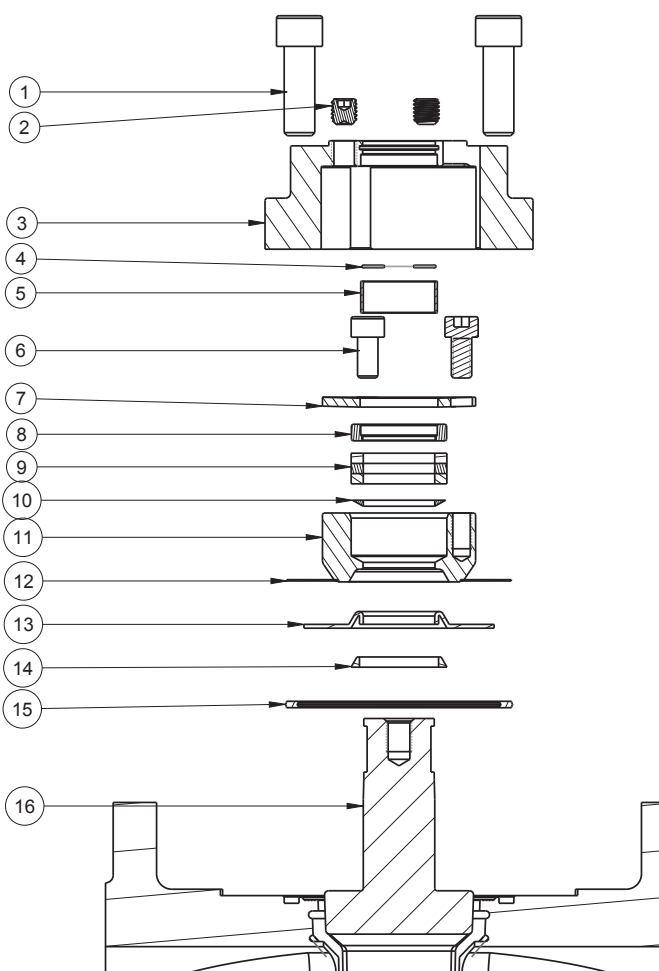

Fig. 12
10. Install Seal Kit (Kit B) (fig. 12)
- Put cover seal (15) in the body groove.
- Put wedge-ring (14) on plug shoulder.
- Pull over carefully formed diaphragm (13) on plug and press it down to plug shoulder. Remove assembly cone.
- Put stuffing box (11) with welded steel diaphragm (12) on formed PTFE diaphragm.
- Insert PEEK ring (10) into stuffing box, with tapered edge facing down as shown in Fig. 12
- Insert packing (9) [PTFE as standard and graphite as fire safe] into the stuffing box. Take care not to damage the packing when placing over the stem.
- Place the follower (8) onto the packing.
- Align the spring washer (7) onto the follower, aligning the through holes with the tapped holes in the stuffing box.
- Put the cap screws (6) through the holes in the spring washer and tighten them into the stuffing box to the torques listen in Table 2.
- Put the stem bearing (5) and ground washer (4) back onto the stem.
- Insert the adjusting screws into the cover holes (2).
- Put cover (3) on the top seal group ensuring alignment of plug adjustment bolts with the holes in the cover.
- Tighten the cover bolts (1) to proper torque spec (Table 3)